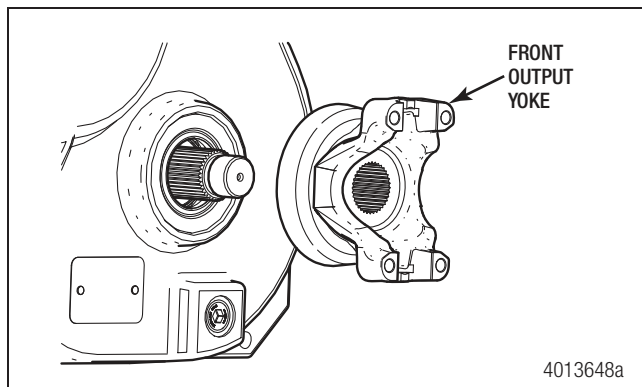

Figure 4.31
2. Use a yoke puller to remove the yoke from the shaft. Do not remove the deflector from the yoke unless it is damaged. Figure 4.31.